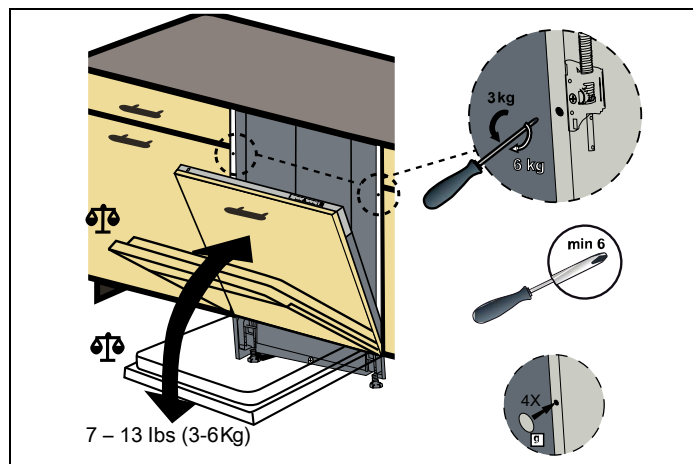

Fig. 28
- 8) According to the weight of the assembled wooden door, the balancing must be provided by the mechanism shown in Fig. 28 .